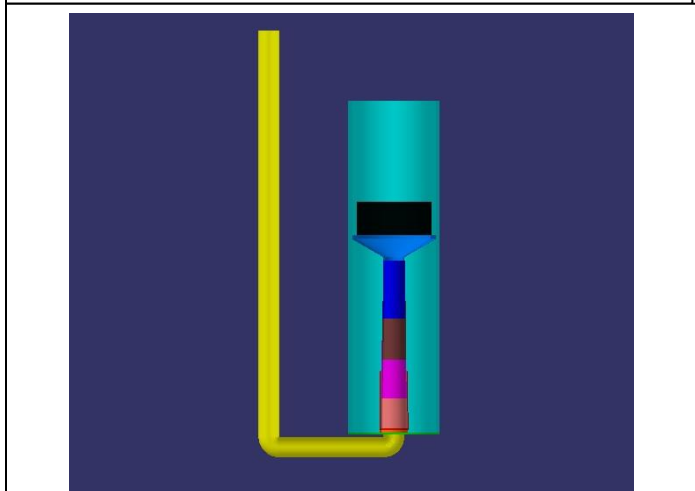

Fig. 6
Step 3: As WPFT expands more and more. It expands Antenna Support more as well. This is shown as next intermediate position of Lift in Figure 6